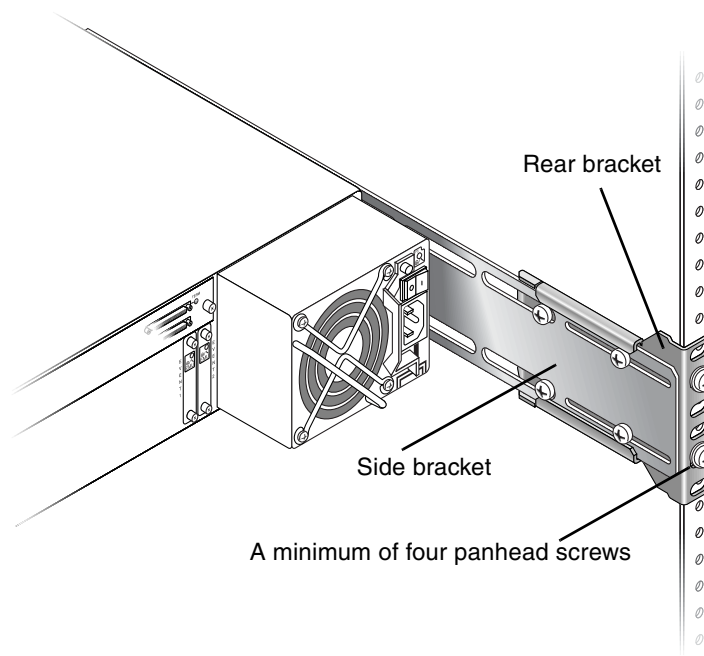

Figure 1-7 Rear and Side Brackets Assembled
9. Attach each side bracket to a rear bracket (see Figure 1-7):